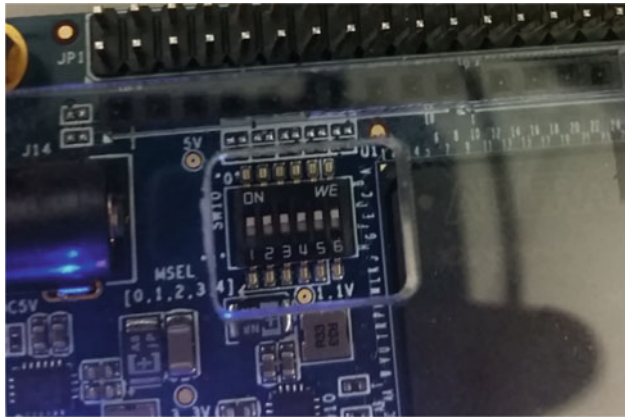

Fig. 11.24: DE10-Nano Switch SW10 configuration that will be used in this book
Setting 2: **FPPx16** Fast Passive Parallel x16 mode (no compression). *This is the mode we will use for the labs in this book.* All switches should be up in the zero (ON) state as shown in Fig. 11.24.